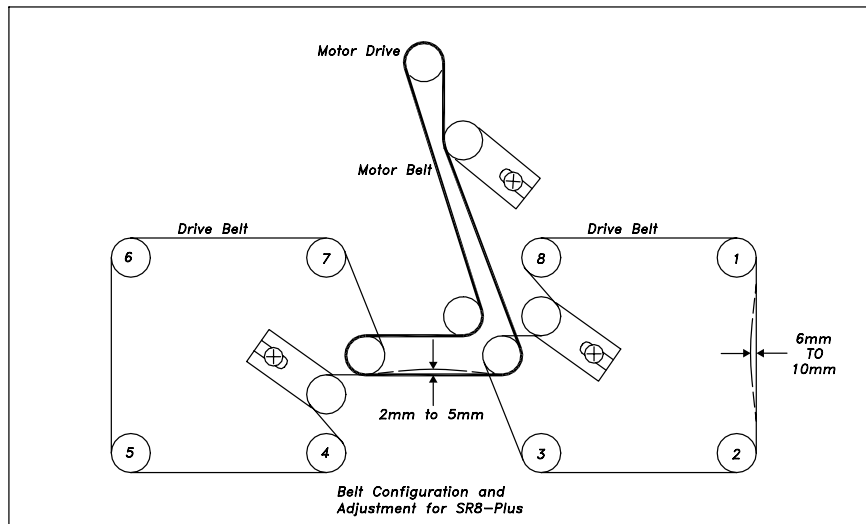

Figure 8-6: Belt Configuration and Adjustment
7. Replace motor belt first and adjust. Then Replace drive belts and adjust. See Figure 8-6 for routing configuration.